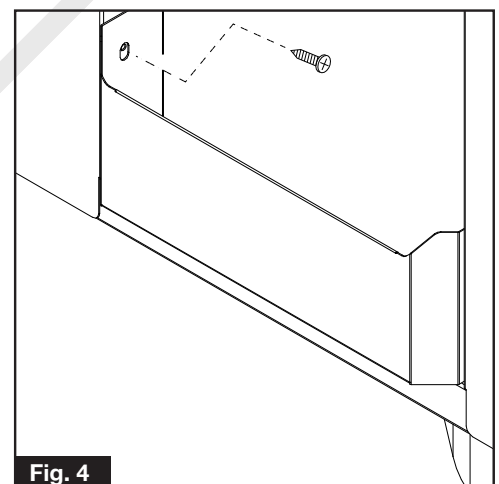

Fig. 4
- Attach using 10Gx15mm screws and tighten with a Philips head screwdriver as shown in Fig. 4.